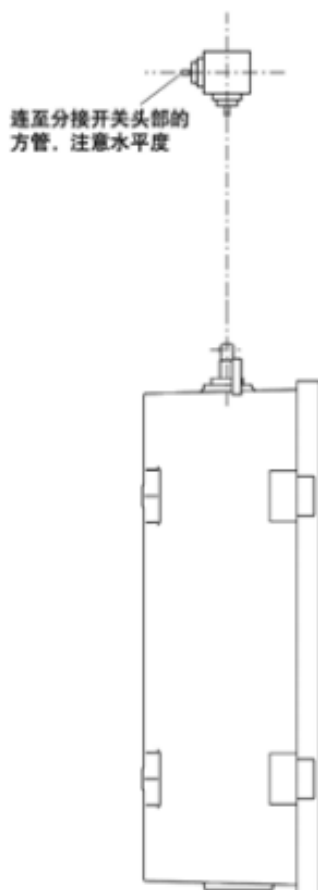

Fig 7-1
7.2.2 Maximum length of driving shaft is 2000mm, users can modify its length according to the actual distance between shaft ends of MDU and bevel gearbox as shown in Figure 7-1, needed length of driving shaft is $L-5\text{mm}$.